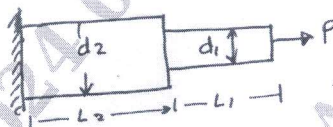

Fig. Q9 (b)
- b. A compound solid aluminium rod is subjected to a tensile force P , Make the assumption that $E = 69$ GPa, $d_1 = 16$ mm, $L_1 = 600$ mm, $d_2 = 25$ mm, $L_2 = 900$ mm, $\sigma_{up} = 276$ MPa. Calculate the largest amount of strain energy that can be stored in the rod without causing any yielding. Refer Fig. Q9 (b).